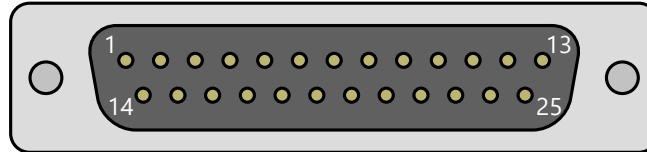
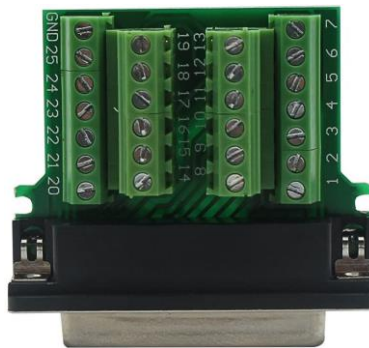

Figure 1: Male DB25 connector pin layout
Figure 2: Male DB25 field splice connector pin layout
**Step 2:** Hold it so you are looking at the pins with them pointing at you or open the back shell of the DB25 field splice. Orient the connector so the row with 13 pins is on top, now the upper left-hand pin is pin 1. See figure 1 (above) for reference. You may also open the case of the connector if using a screw terminal style connector and reference the pin number marking on the PCB (see figure 2 above).